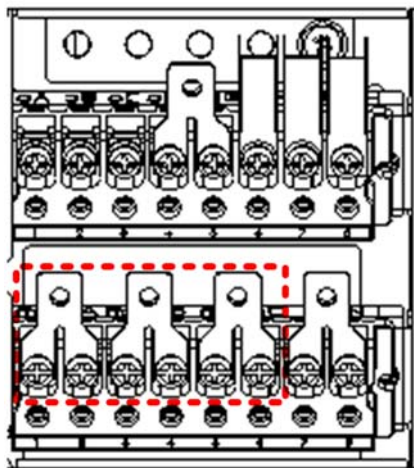

Figure 8-17 3-in 1-out, split bypass configuration (1)
a) Remove the three copper shorting bars from the rectifier input terminals mA, mB and mC, see Figure 8-17.